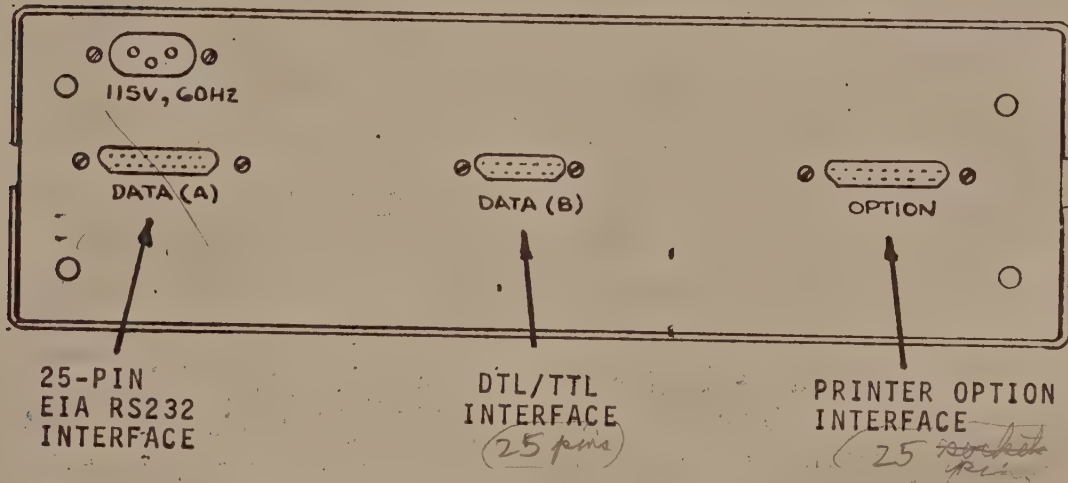

Figure 9. Back Panel Arrangement For DTL/TTL Interface Option
The DTL/TTL Interface option allows the test set to operate with DTL/TTL signals. All input and output signals are standard zero to five volt levels. A 15 pin connector Data (B) located at the rear of the unit (See Fig. 9) is utilized for this interface.